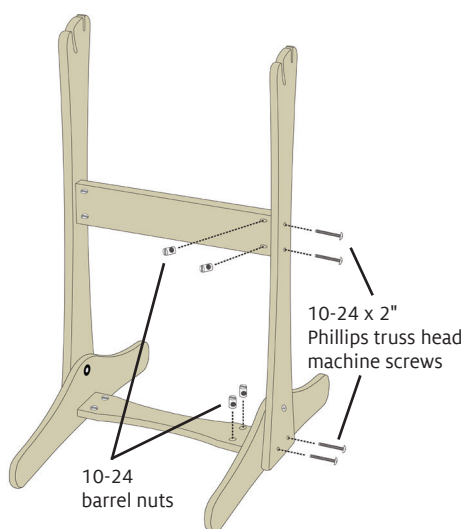

FIGURE 2: ATTACH LEGS TO CROSS BRACE
7. Prepare barrel nuts: Place 10-24 barrel nuts in the holes at each end of the cross brace and mid brace. Turn the barrel nuts so that the slots in their tops are parallel to the long edge of the braces (Figure 2). Hold the barrel nuts in place with masking tape.
8. Attach the lower cross brace: Insert two 10-24 x 2" Phillips truss head machine screws through a leg and base, using the holes closest to the bottom (Figure 2). Make sure each screw goes through the leg first and then through the base. Position one end of the cross brace against the leg and base, so that screws go into the barrel nuts. Tighten the screws into the barrel nuts.
9. Attach the mid brace: Insert two 10-24 x 2" Phillips truss head machine screws through the leg, then into barrel nuts in the mid brace (Figure 2). Tighten the screws into the barrel nuts.
On a correctly assembled stand, the slanted tops of the legs angle in the same direction and the bottoms of the legs sit outside of the bases and the cross brace, as in Figure 2. Look at the tops of the legs to identify the front of the stand: the long curved slots mark the front and the short straight slots indicate the back.